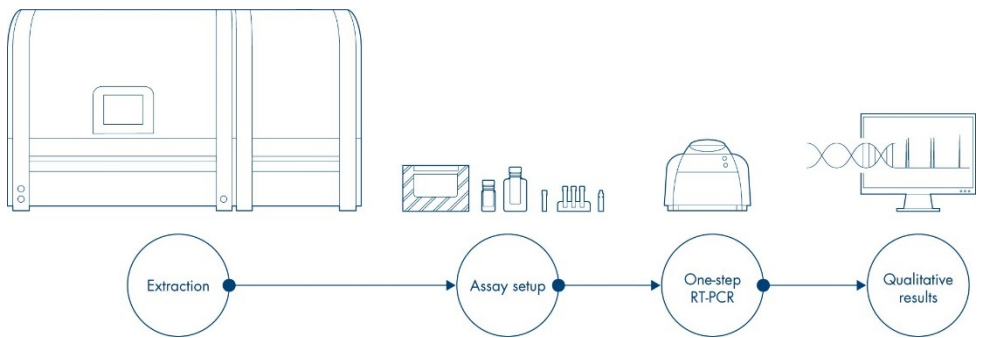

Figure 1: Schematic description of *artus* Infl. A/B/H1 QS-RGQ Kit workflow.
The *artus* Infl. A/B/H1 QS-RGQ Kit constitutes a ready-to-use system for the detection of influenza A and B viral RNA and influenza A – H1 Pandemic 2009 strain (H1pdm2009) in nasal swab specimens. This uses reverse transcription–real time polymerase chain reaction (RT-qPCR) on Rotor-Gene Q MDx 5plex HRM instruments. The *artus* Infl. A/B/H1 QS-RGQ system uses the QIAAsymphony Sample Preparation (SP) module and the QIAAsymphony Assay Setup (AS) module automated sample preparation and Rotor-Gene Q MDx 5plex HRM instrument for target amplification and detection (see Figure 1).